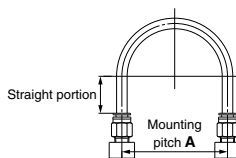

Fig. 1 Recommended piping configuration
1. When connecting tubes using One-touch fittings, provide some spare tube length shown in Fig. 1, recommended piping configuration.